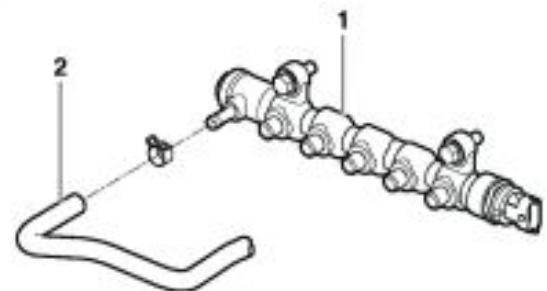

Figure 227
3. Remove leak piping (2, Figure 227) from the pressure limiter (1, Figure 227).